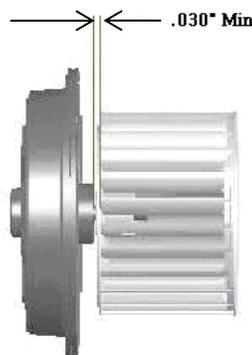

Figure 17: Fwd Evap Blower Motor and Wheel Assembly
- A. Install retained blower wheel on new motor. Press the blower wheel onto the motor shaft until it stops against motor. Back blower wheel away to achieve a .030" – .040" clearance between blower wheel and new motor. Apply one drop of low strength Loctite to set screw and tighten against flat portion of motor shaft to lock wheel in place (Figure 17).